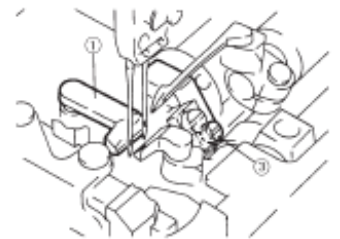

Fig. 14
C. When the looper point comes the middle needle centerline: The right needle and needle guard (rear) (item 1) touch each other slightly with 0 - .05mm clearance between the right needle and the looper point. To adjust, loosen screw (item 3) and turn needle guard (rear) left or right (see Fig.14).